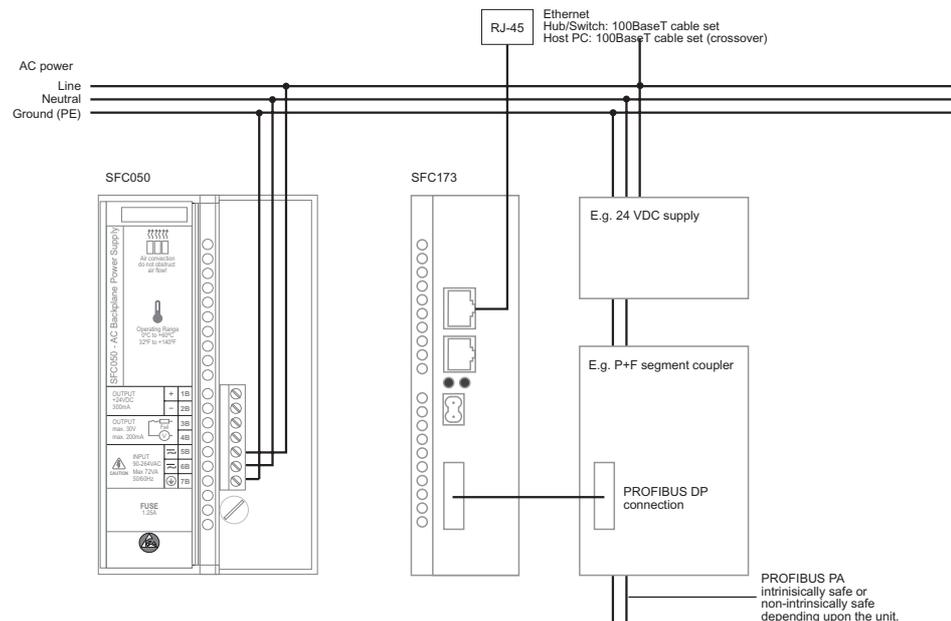

Fig. 4-5 AC wiring diagram for PROFIBUS Field Controller using segment coupler or link
- If you are using the SFC050 AC power supply, see Fig. 4.5 for connections